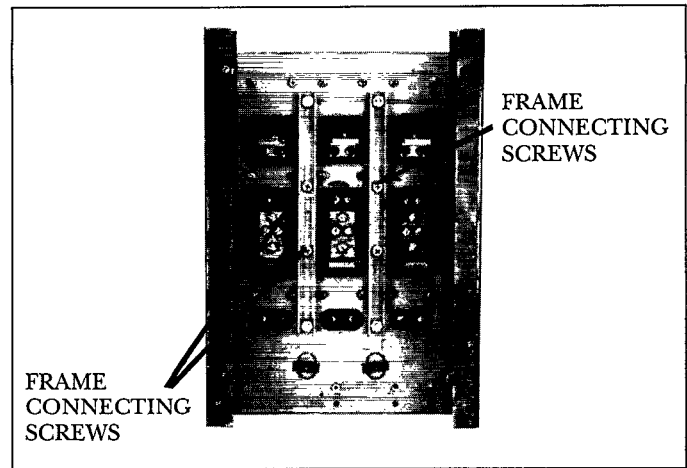

Fig. 3. Screws Holding Breaker Front and Back Frames Together
From the back of the breaker, remove the (4)  $\frac{3}{8}$ -16 Philip's head screws holding the front mechanism to the breaker frame (Fig. 3). Save the hardware.